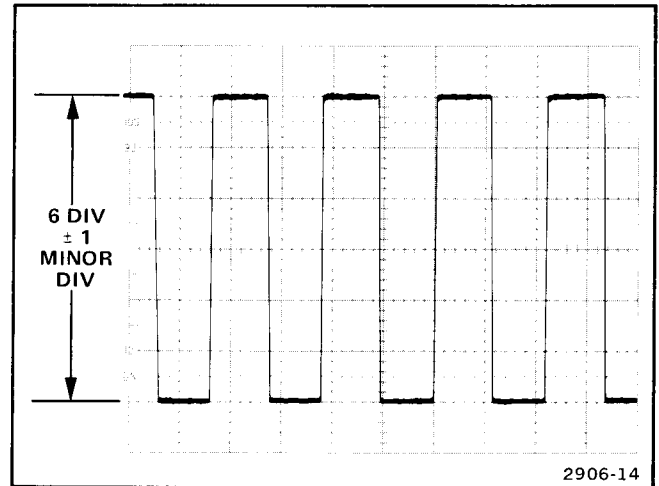

Figure 14. Vertical display accuracy.
6. CHECK—for a vertical display amplitude of 6 divisions ± 0.2 division (5.8 to 6.2 div) (see Figure 14).
3. Use the CH 1 POSITION control to vertically center the display and check for a stored display with a vertical amplitude of 6 divisions ± 0.2 divisions (5.8 to 6.2 div). (See Figure 14.)